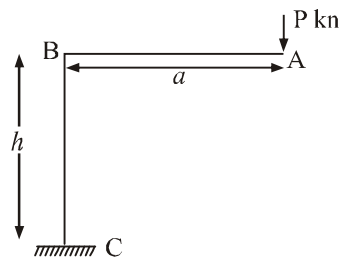

Figure 4
8. A rigid frame ABC as shown in figure 4 carries a concentrated vertical load $P \text{ kN}$ at point A. Find the vertical and horizontal deflection of point A. Assume EI - constant.